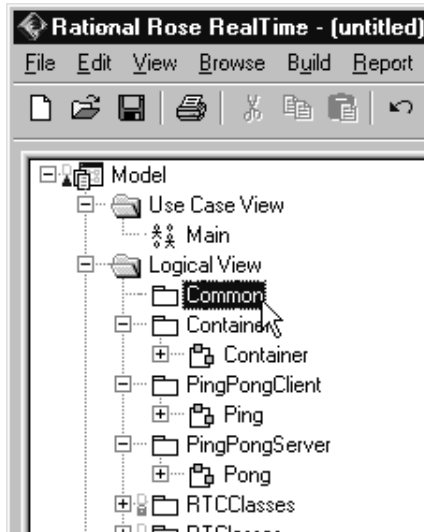

Figure 12 *Creating protocol classes*
1. Open the pop-up menu on the Common package by right-clicking on the Common Package as shown in Figure 12.